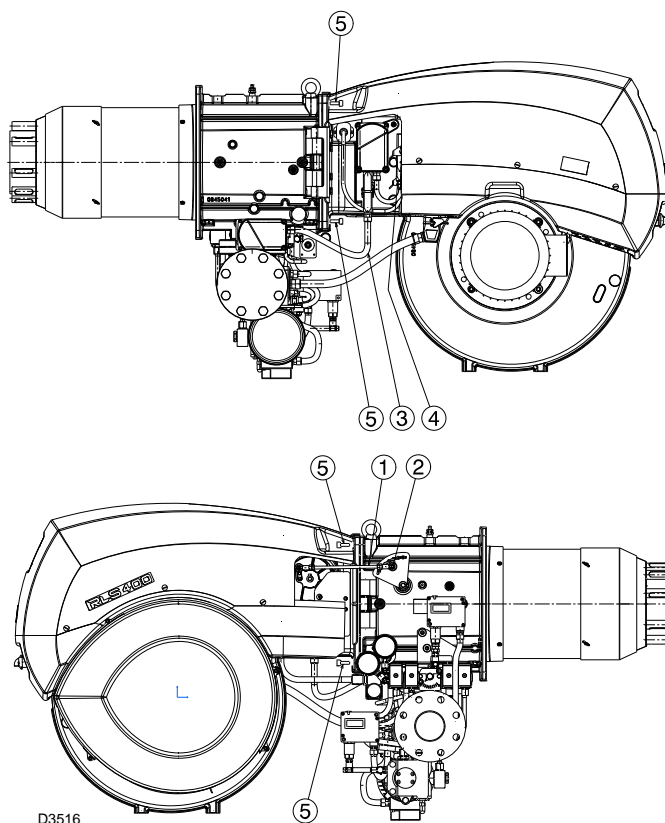

Fig. 44
- Remove the tie rod 1) (Fig. 44) of the head movement lever, loosening nut 2).